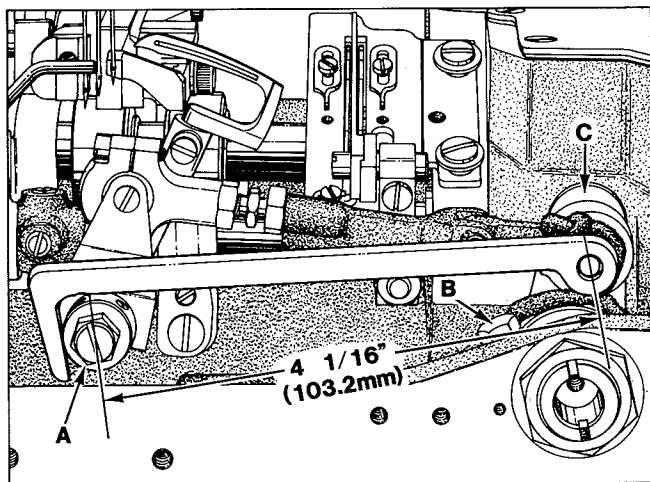

Fig. 6
With looper at extreme right end of travel, check location of the right looper connecting rod bearing using gauge No. 21227 DC as shown in Fig. 6. Place hole of gauge over threaded stud, then set the left inside edge of gauge against the left side of looper rocker cone (A) as shown. At this time, there should be no clearance between left inside edge of gauge and left side of cone (A). If adjustment is necessary, loosen clamp screw (B) and reposition looper drive lever (C) as required, then tighten screw (B).
If gauge No. 21227 DC is not available, check setting with a scale. Distance between the centerline of rocker cone and centerline of looper drive lever stud should be 4 1/16 inch (103.2mm) as shown in Fig. 6; when looper is at its extreme right end of travel.